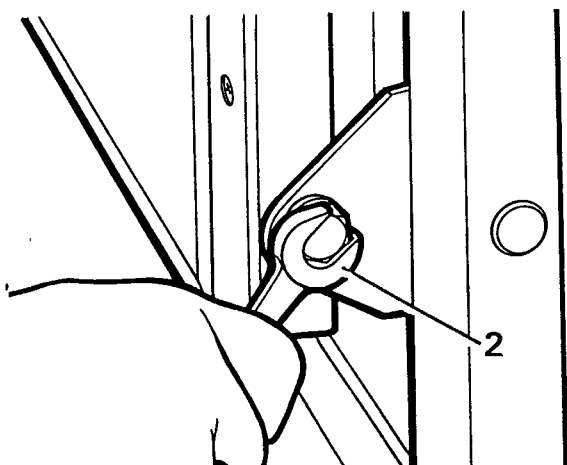

Figure 6
2. Remove the two bolts securing the seat to the support frame. Note the position of the spacer for reassembly. See figure 6.